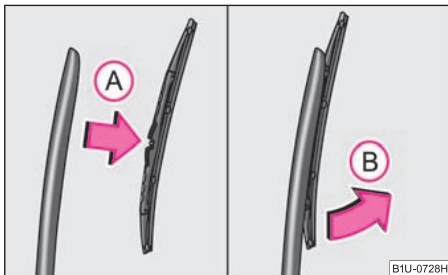

Fig. 57 Wiper blade for rear window
- Fold the window wiper arm away ⇒ fig. 57.
- Take hold of the wiper blade in the middle with the other hand and take off the wiper blade by moving in direction of arrow (B).
- Interlock the wiper blade into the window wiper arm - see arrow (A).